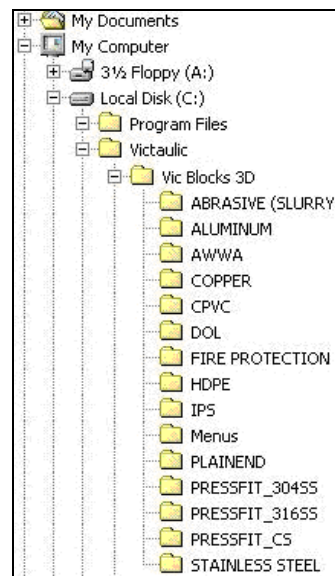

Fig. 3
- 4) After DesignCenter opens, change the view to a file tree by locating and selecting the **Folders** menu tab in the DesignCenter (Fig. 3).